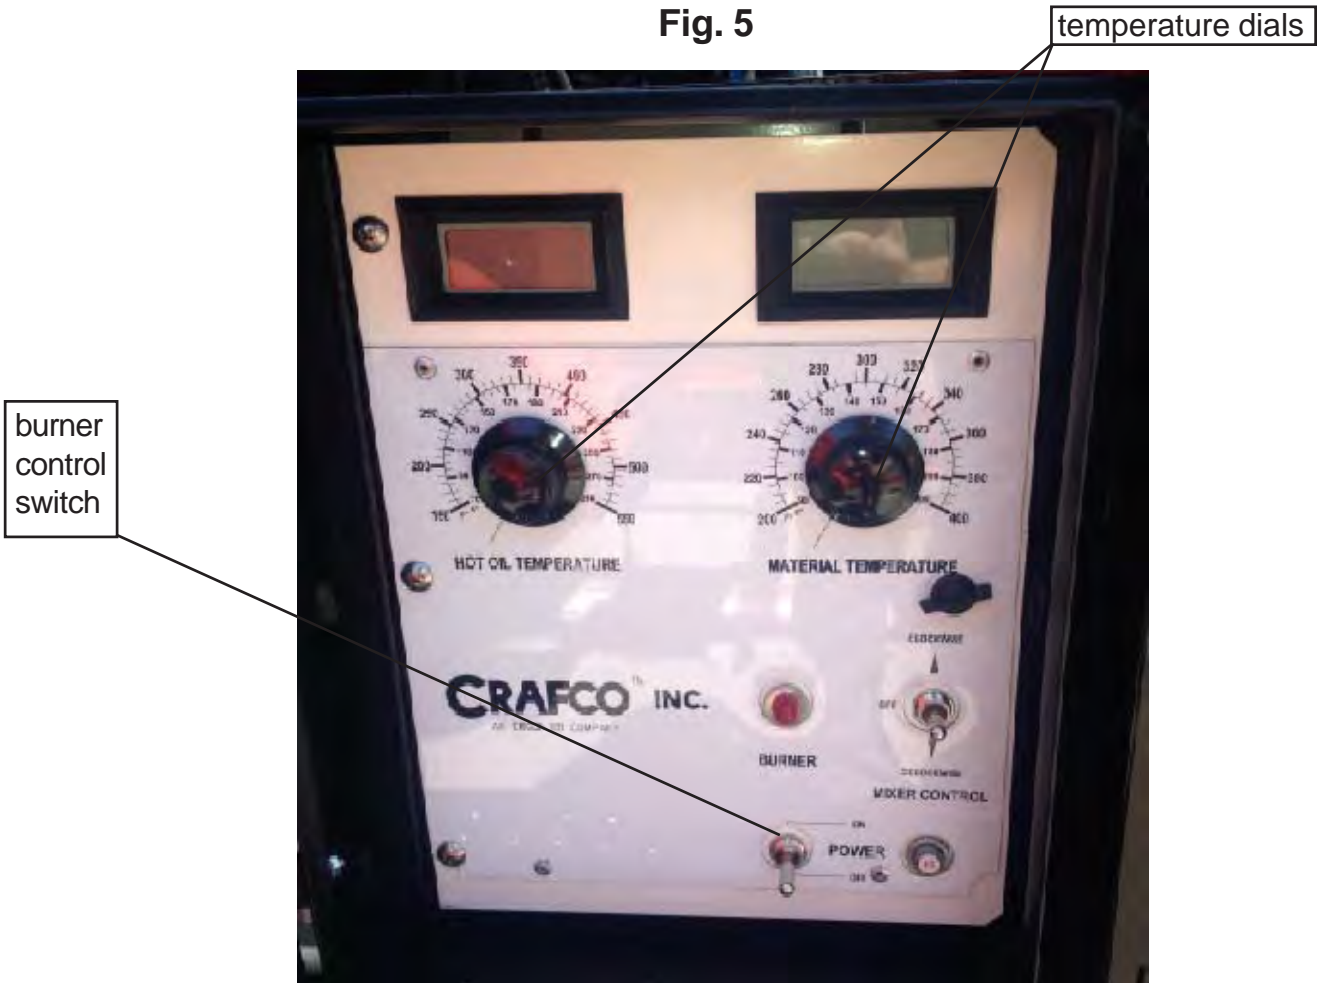

Fig. 6
4. Set the temperature dials to desired temperature. Hot oil temperature should not exceed 525 deg.F and the material 410 deg. F. (see fig 6).
5. Turn toggle switch " POWER SWITCH ON" (see Fig. 6).